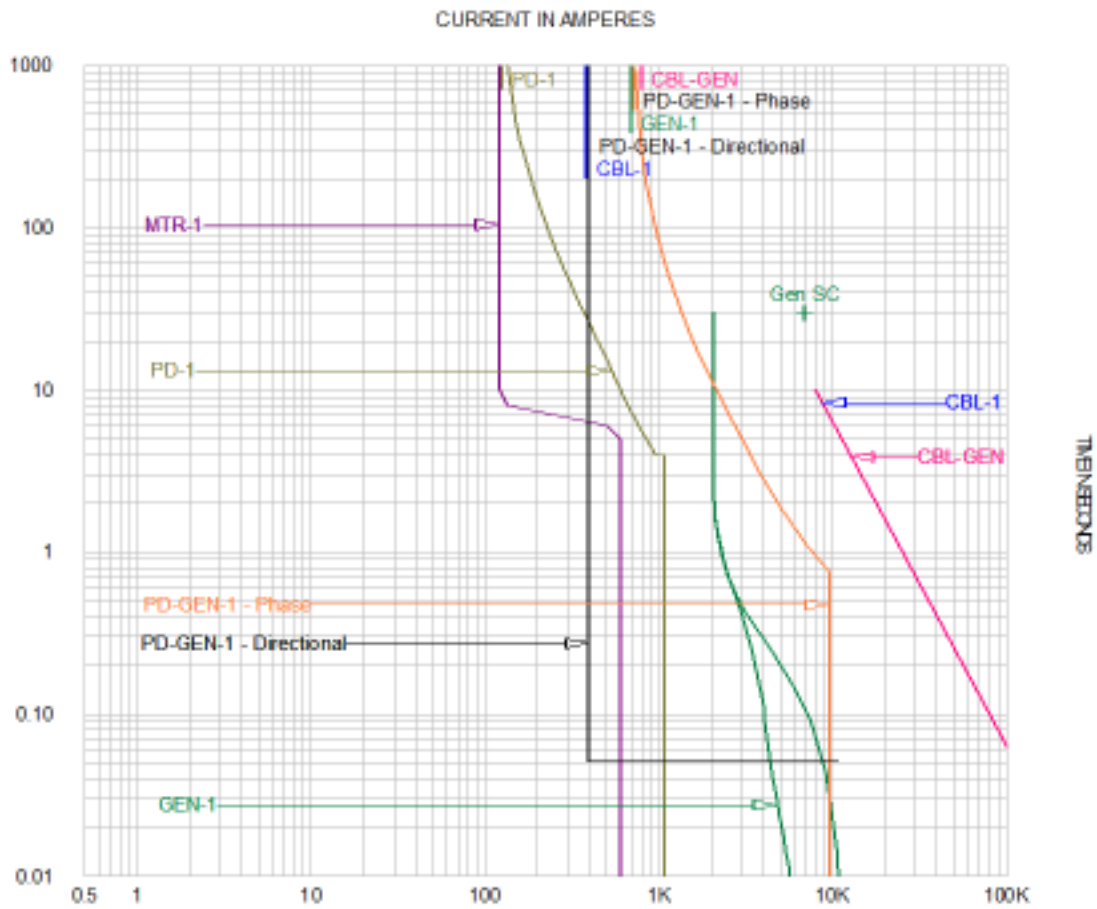

Figure 9
- Note that the function names (Phase or Directional) are now added to the end of the PD-GEN-1 device name. In our sample case, the Definite Time is selected as the delay time for the directional (67) function (Figure 9).